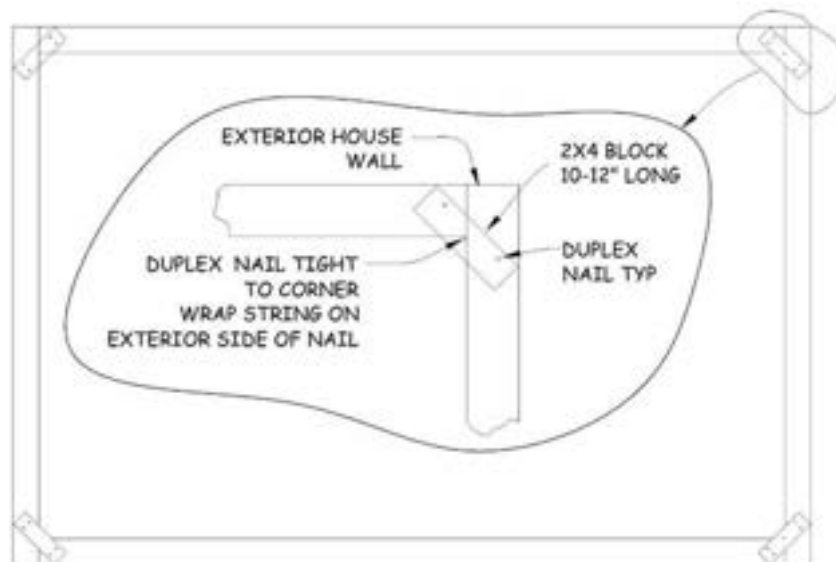

Figure 5-5. Installing String Line.
5. Place the 2x4 piece on top of the 2x6 upper plates at roughly a 45° angle so that the protruding end of the 16d duplex nail rests tightly against the "inside" corner of the upper plates of both walls (see Figure 5-5).